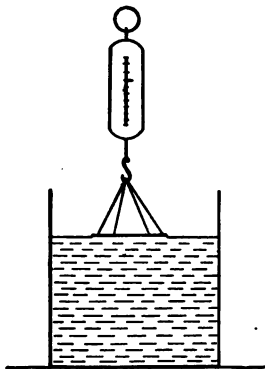

FIG. 2
13. Hang a piece of glass (4 inches square) by string from a sensitive spring balance so that it will lie horizontally. Note its weight. Lower the glass over water, taking care that all parts just touch the water surface and that there are no air bubbles between them (Fig. 2). Now lift the balance slowly, noting with care the greatest pull, as shown on the scale. From this latter reading subtract the weight of the glass. Show how this illustrates both cohesion and adhesion.